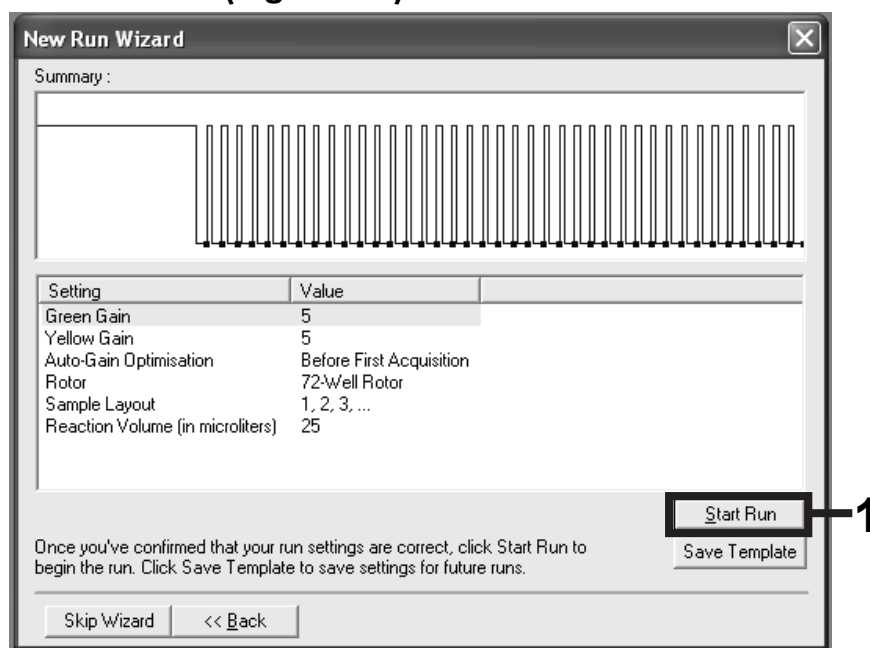

Figure 12. The “New Run Wizard” dialog box.
13. Check the summary and click “Start Run” to save the run file and start the run (Figure 12).